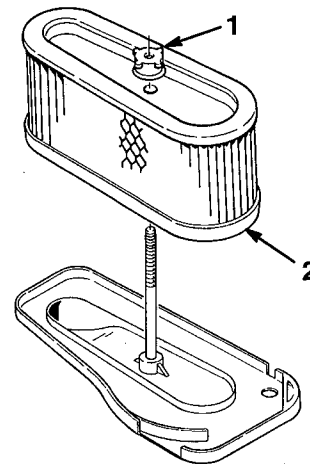

Figure 29
5. Unscrew the rubber nut and remove the paper element (Fig. 29).
- Slide the air cleaner assembly onto the long rod. Now screw the rubber nut finger-tight against the air cleaner (Fig. 29).